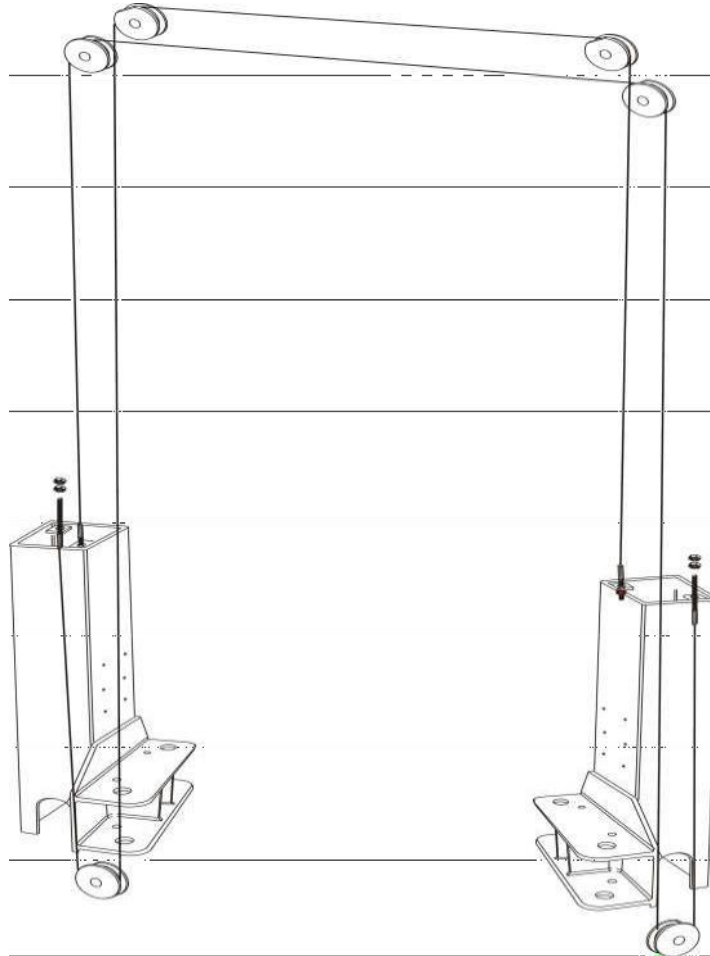

Fig.13a
- Raise the two carriages to the safety locking position; make sure the two carriages are of the same height from ground. For TRJR-245LD models, route the steel cables as Fig. 13a